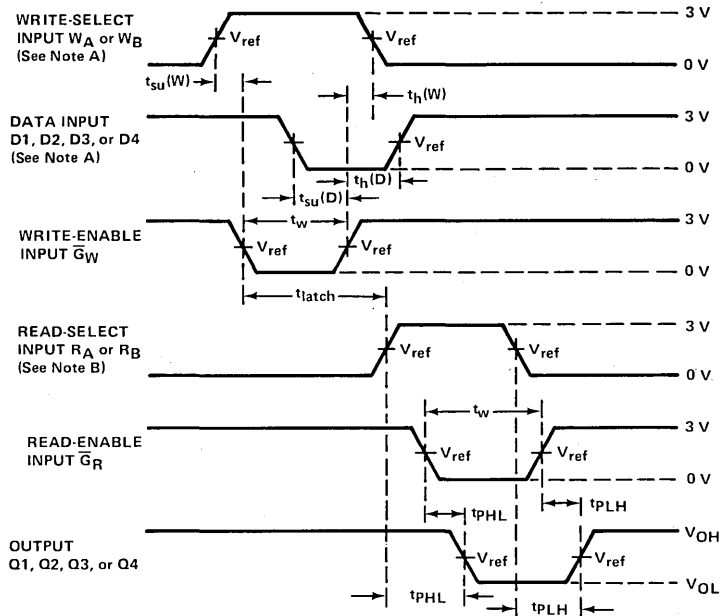

FIGURE 2
4. Latch time is the time allowed for the internal output of the latch to assume the state of new data. See Figure 2. This is important only when attempting to read from a location immediately after that location has received new data.
- A. High-level input pulses at the select and data inputs are illustrated in Figure 2; however, times associated with low-level pulses are measured from the same reference points.
- NOTES: A. High-level input pulses at the select and data inputs are illustrated in Figure 2; however, times associated with low-level pulses are measured from the same reference points.